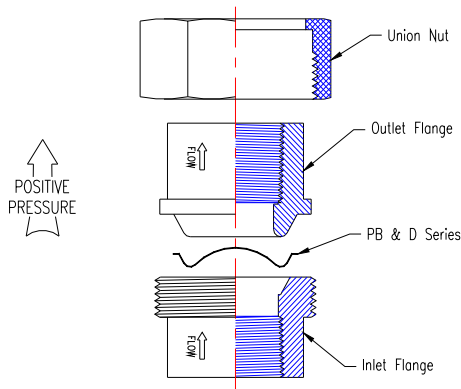

Figure 1 – Angle Seated Disk
- f) Place the new unused rupture disk into the holder as per figure 1, 2, 3 or 4. with proper side of the disk facing the system pressure. DO NOT USE A GASKET.